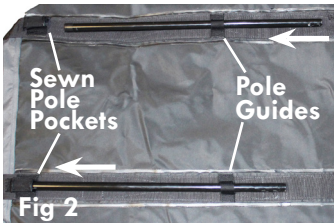

Fig 2
1-Run (2) of the poles through the pole guides into the sewn pole pockets (Fig 2).